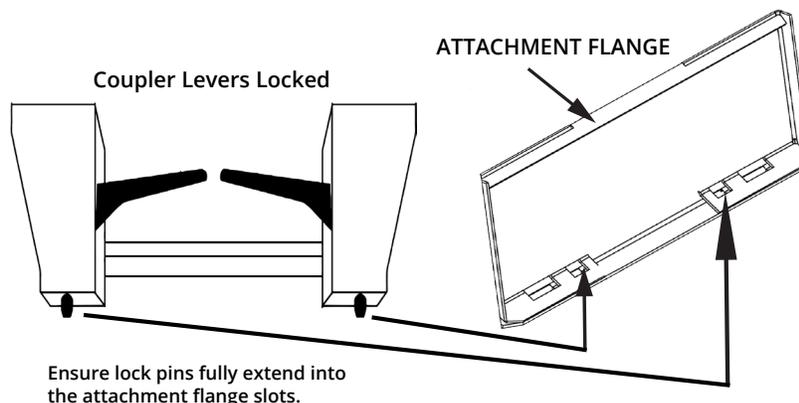

Figure 3.2b Quick Attach Mechanism Locked to Attachment Plate
4. Activate your skid steer's lever lock switch to lock the pins into the brush cutter's attachment plate. If your skid steer does not have this switch, manually lock the levers as shown in Figure 3.2b below.